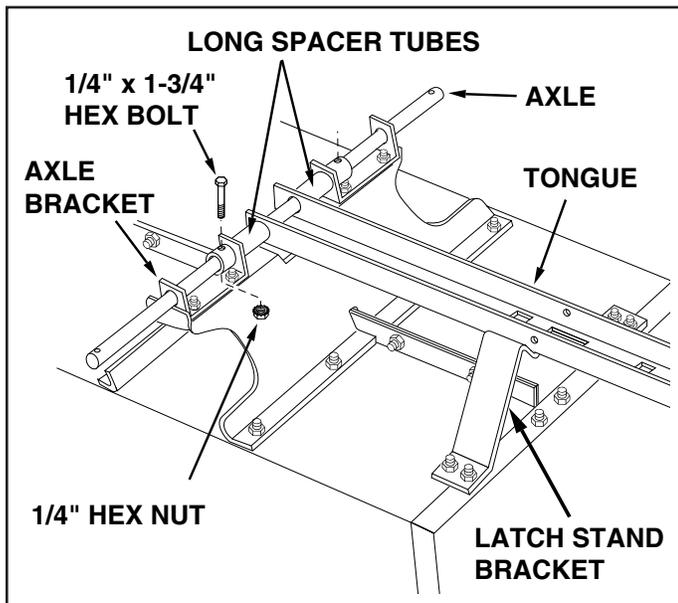

FIGURE 9
- Place a long spacer tube on each side of the tongue and assemble the axle through the wheel support, the two spacer tubes and the tongue. Secure the axle using two 1/4" x 1-3/4" hex bolts and 1/4" hex nuts. **Tighten**. See figure 9.